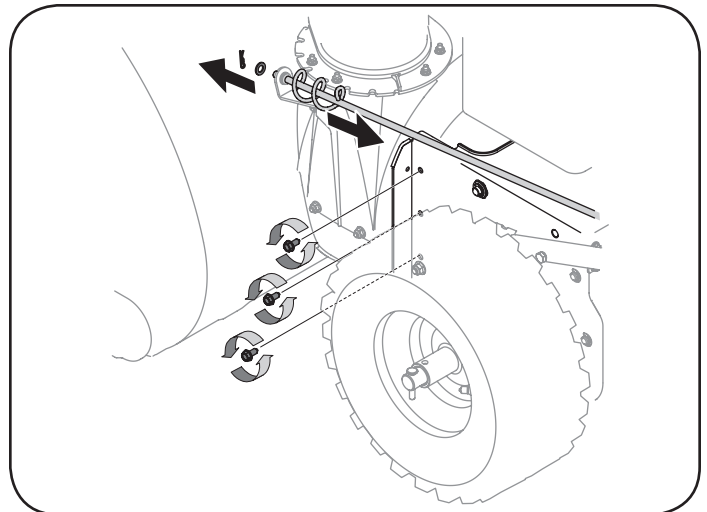

Figure 22
1. Disconnect the chute crank assembly at the discharge chute end by removing the hairpin clip and the flat washer. Refer to Figure 22.
4. From both sides of the the frame assembly, use a 1/2" wrench to remove the three hex tap screws securing the frame to the auger housing assembly. Refer to Figure 22 on previous page.